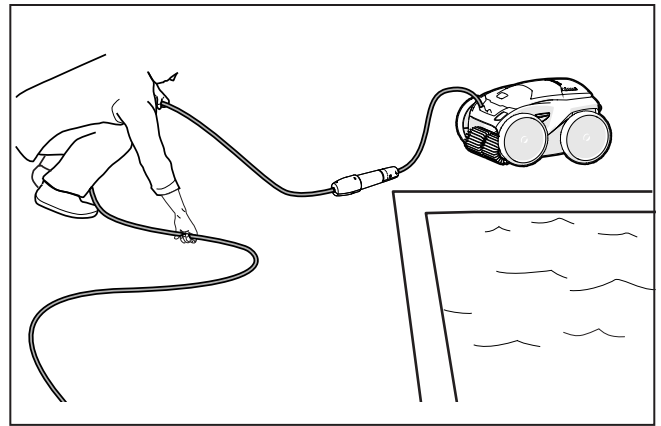

Figure 18. Untangle
4. Remove the cleaner from the pool and untangle all kinks and coils in the power cable (Figure 18). Start at the cleaner head. Lay the cable in the sun to loosen any tangling memory.